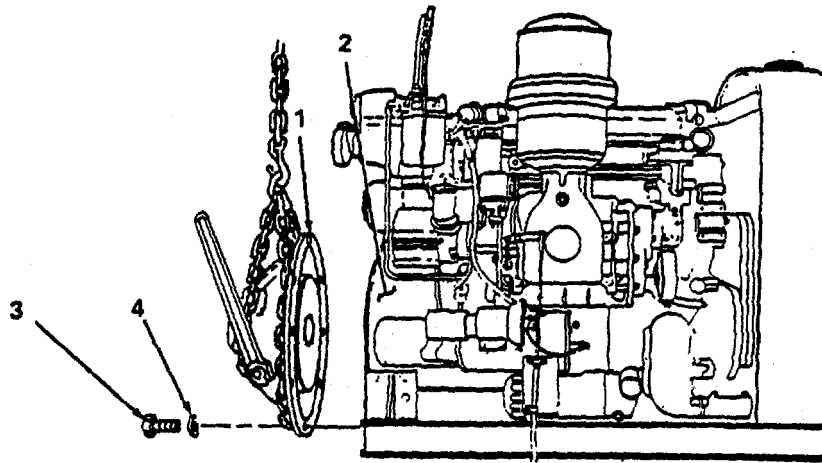

Figure 5-11. PTO/Clutch Installation.
- (a) Position PTO/clutch assembly (1 figure 5-11) on engine flywheel housing (2).
- (b) Install 10 screws (3) and 10 lockwashers (4) and tighten.